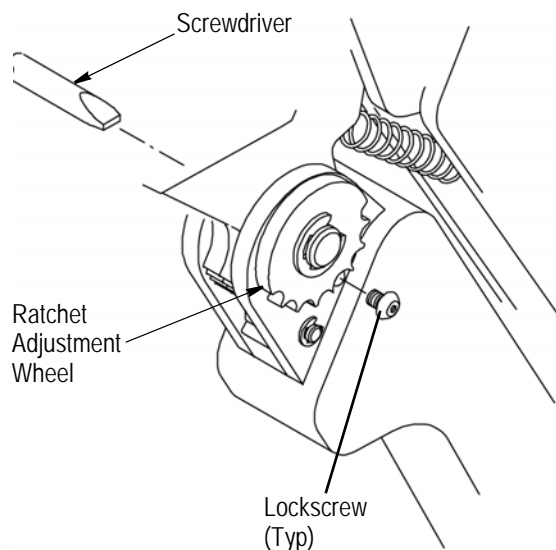

Figure 5
2. With a screwdriver, adjust the ratchet wheel from the locator side of the tool (see Figure 5).